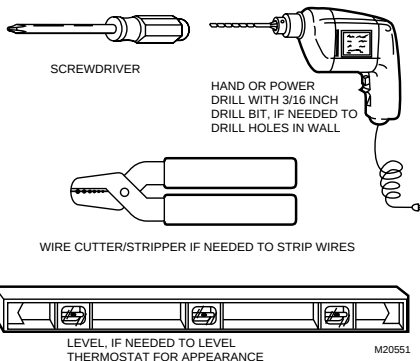

Fig. 1. Required installation tools/supplies.
- ☐ Acquire tools and items, as needed. See Fig. 1.